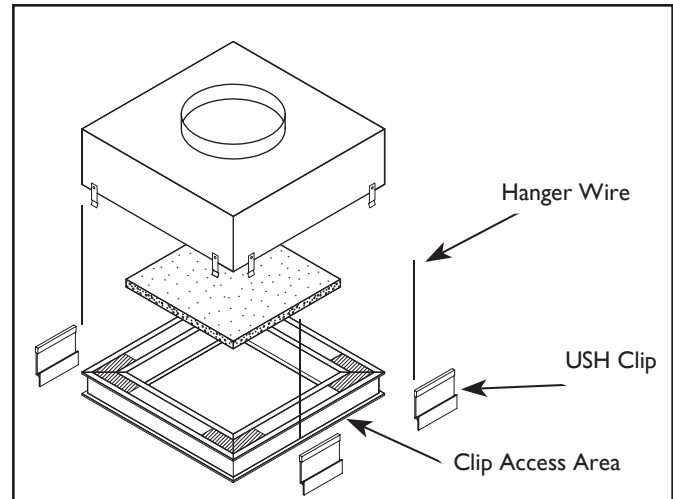

Figure 25. Installation of USH clips
- ❑ Install the Upper Support Hanger (USH) Clips at the clip access area into the upper boss of the Diffuser extrusion and move a clip towards each corner as shown in Figure 25.